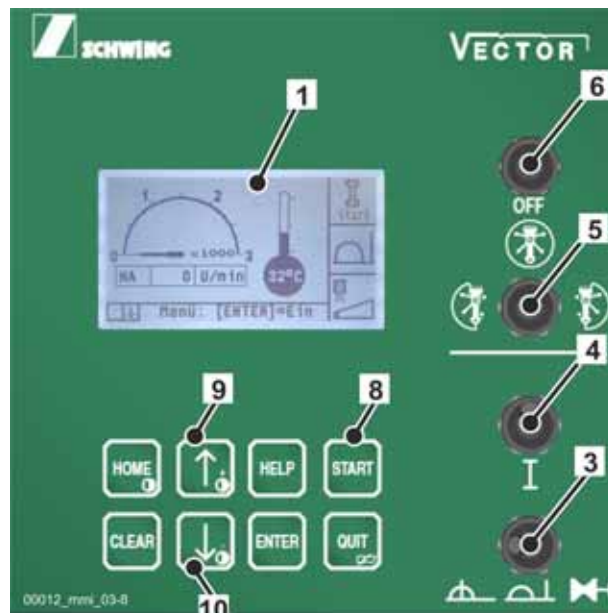

Fig. 426 Select remote control.
- Select remote control with the toggle switch (3) (Fig. 426).